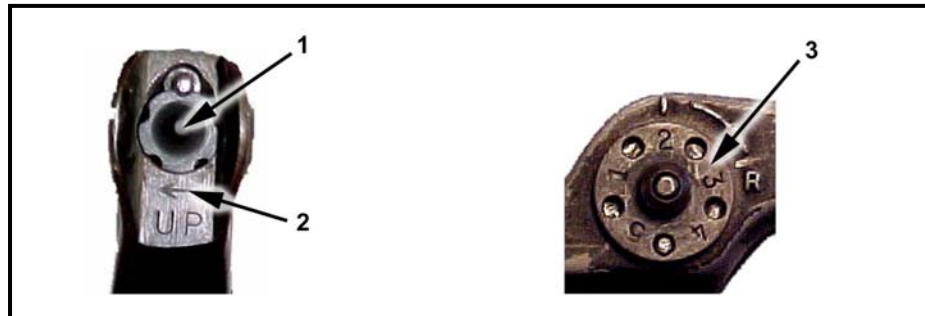

Figure 2-2. M16A1 rifle mechanical zero.
(1) **Mechanically Zeroing the M16A1.** Mechanically zeroing the M16A1 (Figure 2-2) is only necessary when the weapon zero is questionable, the weapon is newly assigned to the unit, or the weapon sights have been serviced. If necessary, the soldier should mechanically zero the weapon as follows:
- (a) Adjust the front sight post (1) up or down until the base of the front sight post is flush with the front sight post housing (2). Then adjust the front sight post 11 clicks in the direction of UP.